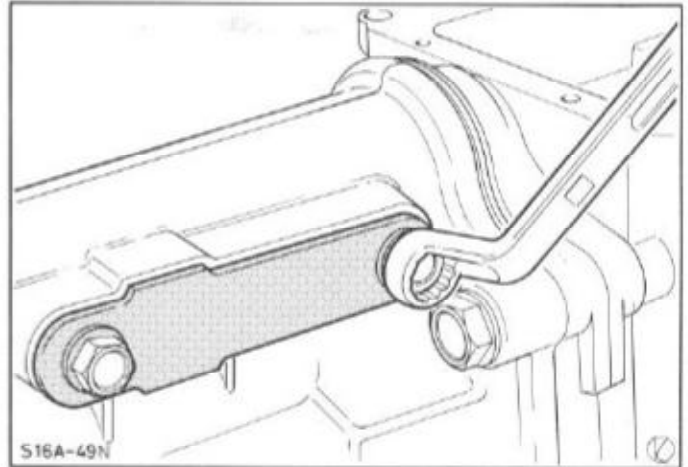

Fig.144. Fit 5th gear locking plate.
61. Apply specified sealer (see Technical Data) to locking plate (sealer must not get into locking bore) and fit locking plate with spring to extension housing fingertight, Fig.144.